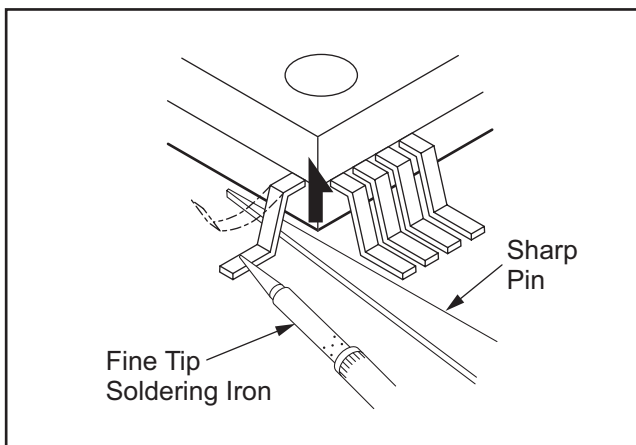

Fig.4
- (2) Lift each lead of the flat pack-IC upward one by one, using a sharp pin or wire to which solder will not adhere (iron wire). When heating the pins, use a fine tip soldering iron or a hot air desoldering machine. (Fig. 4)